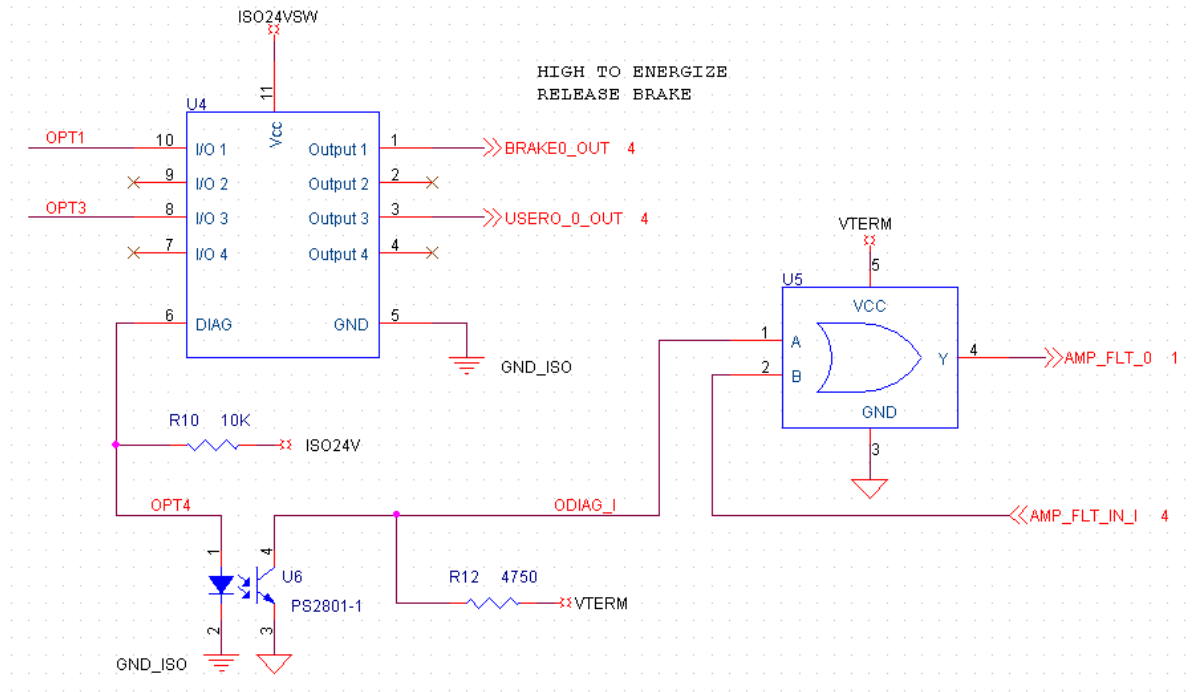

FIGURE 6 – RT FAULT GENERATION
Relay Over-Temperature (RT) fault can be generated by either axis 0 or axis 1 of the RMB, and the fault is specific to the AMP FAULT of the axis that generated it. The fault is generated by the diagnostic output of the solid state relays (SSR) used to provide 2 high-current outputs for each axis of the RMB. One SSR output pin is used to drive the external BRAKE control pin (J6 pin 8) and a second SSR output pin is used to drive the USER OUT control pin (J4 pin 4). The SSR package provides a diagnostic output to indicate an over temperature condition of either the BRAKE or the USER OUT driver. See Figure 6. The active state of the diagnostic output is AND'd into the axis AMP FAULT chain. If either the BRAKE output or the USER OUT output is faulted due to excessive current (over temperature) an amplifier fault will be generated.